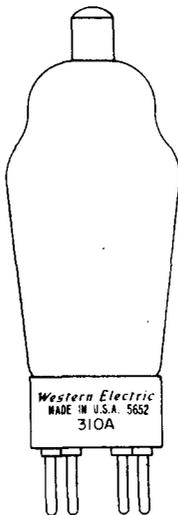

Fig. 1
**(B) Base Marking**
2.05 Some of the electron tubes such as the 310A, 101F, 373A, etc., are marked on the base of the tube as indicated in Fig. 1.